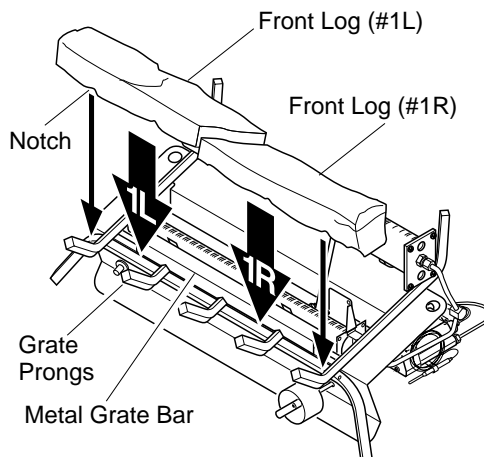

Figure 22 - Installing Front Logs (#1L and #1R)
1. Place front logs (#1L and #1R) on top of the grate. Make sure the notches in the bottom of the logs fit over the grate prongs (see Figure 22, page 12). Push back of logs flush with metal grate bar. *Note:* 18" model has only one front log.